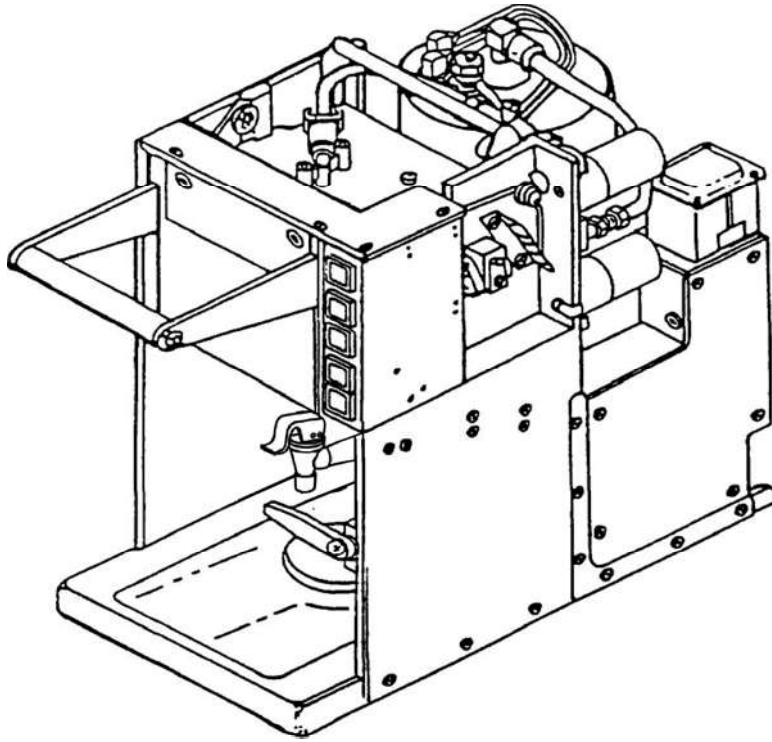

Figure 1
- B. Coffee Maker/Water Boiler part number PN 3510-0052-01 is designed for use in aircraft galleys (refer to Figure 1). The coffee maker/water boiler is easily removable from the permanently installed base assembly by a single release pin. The coffee maker/water boiler is of modular design, utilizing cast aluminum-magnesium construction for maintainability and reliability. The front casting serves as a framework for the housing platen, and electrical controls. The rear casting serves as a framework for the housing, hot water tank, plumbing controls, and provides close dimensional controls for accurately locating automatic disconnects to the aircraft electrical system, water supply and drain.